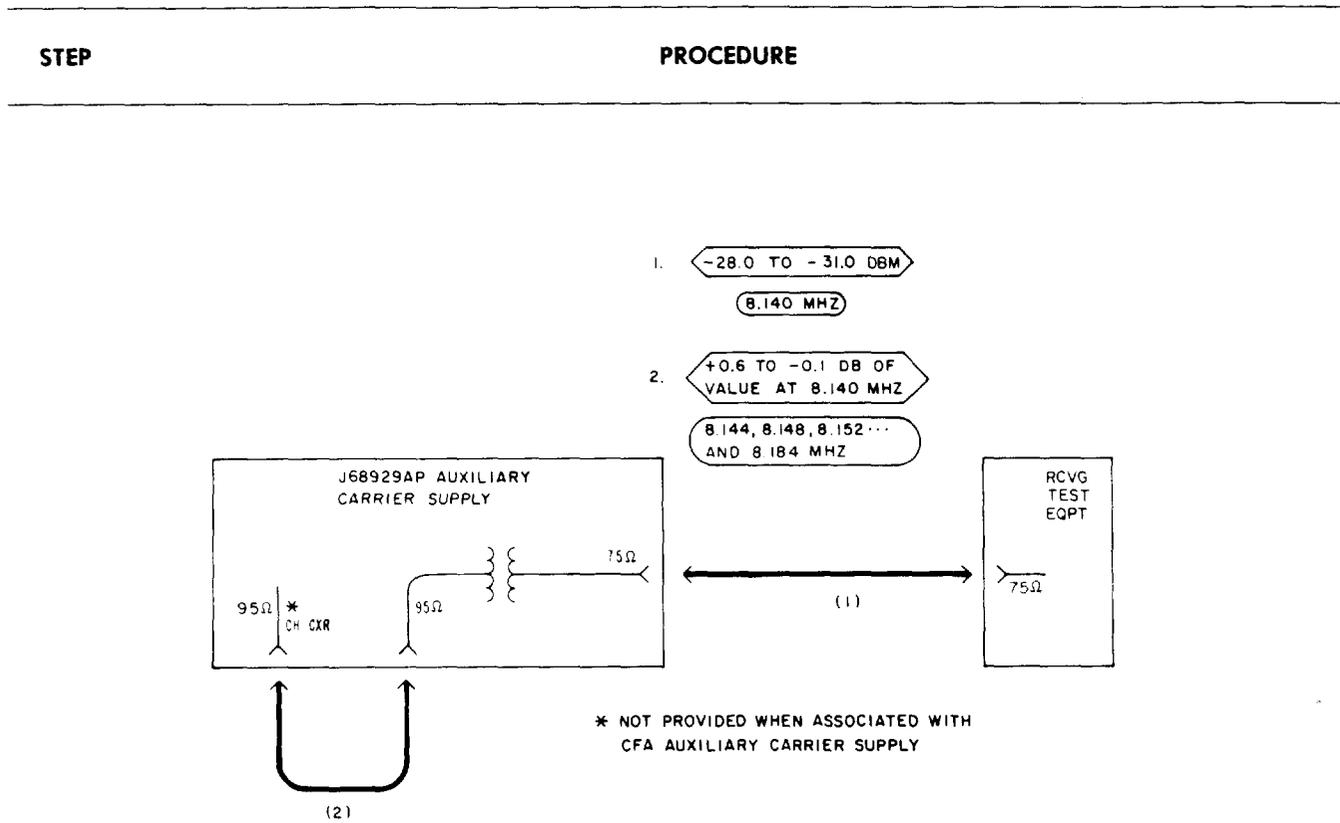

Fig. 11—Patching Diagram—Carrier-Frequency Test—Auxiliary Carrier Supply
57	Connect the RTE to the 75Ω jack [patch (1), Fig. 11].
58	Connect the 95Ω jack to the CH CXR jack [patch (2), Fig. 11].
62 Remove patch (2), Fig. 11.